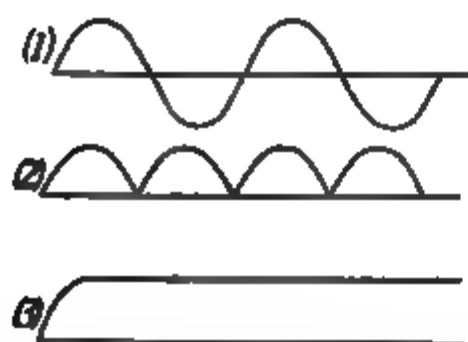

FIG. 292.—Graphic representation of (1) an alternating current; (2) a pulsating current; (3) a continuous current.
it continues to flow out of the upper brush. This change in connection at the brushes takes place at each half turn of the armature, just as the current changes in direction in the coils. This is the manner in which the commutator of a dynamo changes the alternating current produced in the armature coils, into a direct current in the external circuit. Fig. 292 (1) represents graphically an alternating current, (2) of the
armature with a corresponding number of segments upon the commutator. (See Figs. 289 and 293.) As each coil and commutator segment passes a brush, it contributes an impulse to the current with the result that armatures with many coils produce currents that flow quite evenly. (See Fig. 292, 3.)
The current represented in Fig. 292 (2) is called a *pulsating* current.